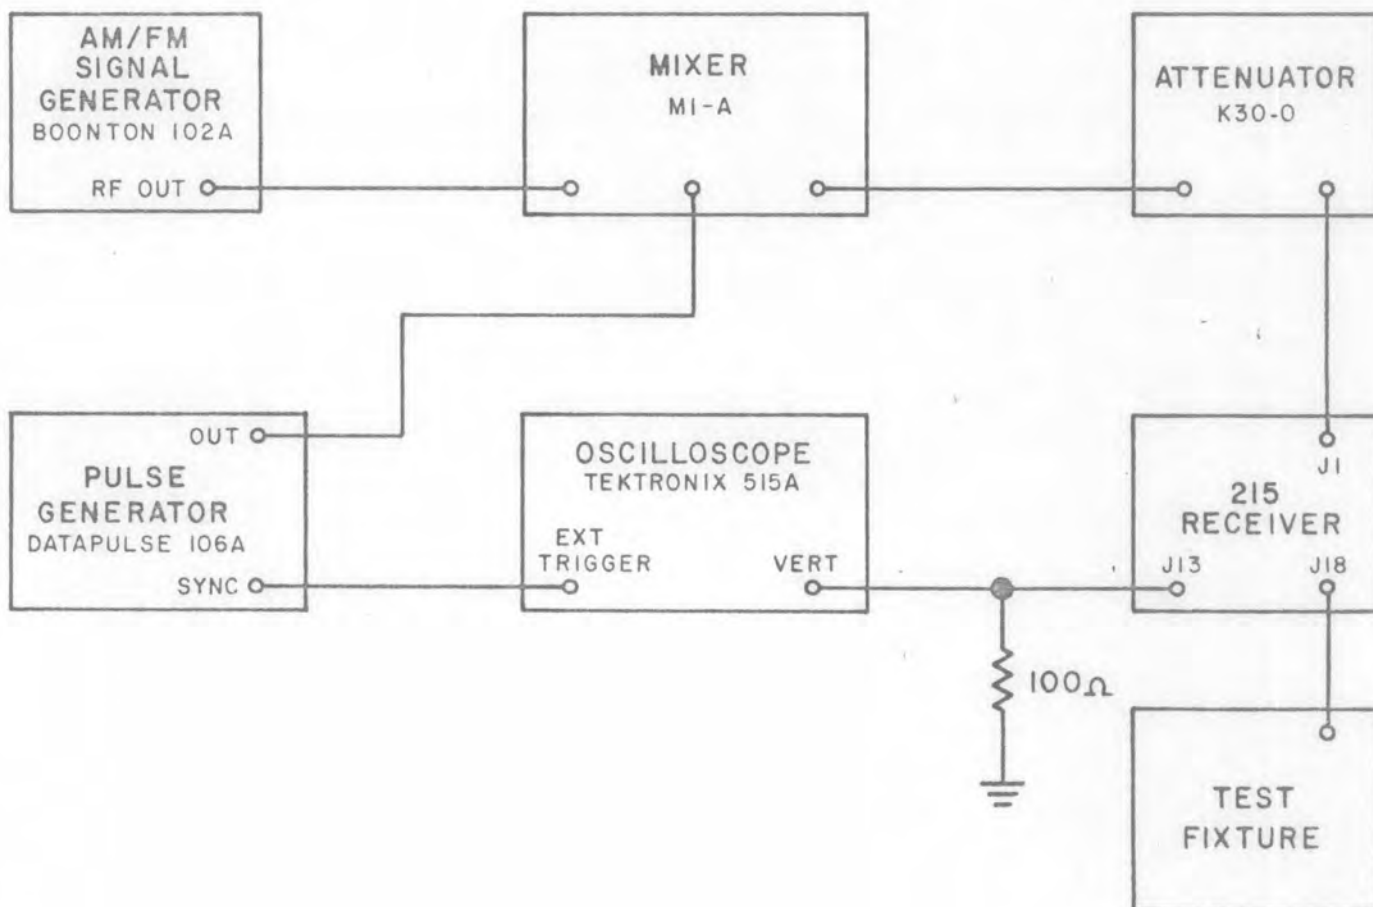

Figure 4-8. Test Setup, Remote Pulse AGC Check
- (1) Connect the equipment as shown in Figure 4-8.